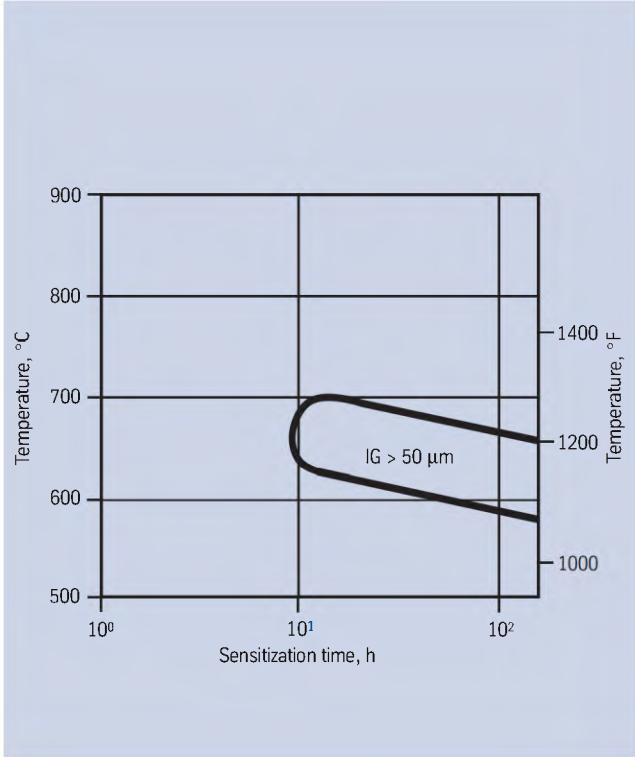

Fig. 4 – Time-temperature-sensitization diagram (TTS), IG according to the ASTM G 28 A test.
Resistance to intergranular corrosion (IG) has been determined according to the ASTM G 28 A test as well as to German Standard Test SEP 1877 II. Fig. 4 shows that Nicrofer 3127 hMo only becomes sensitized after a considerable time period.